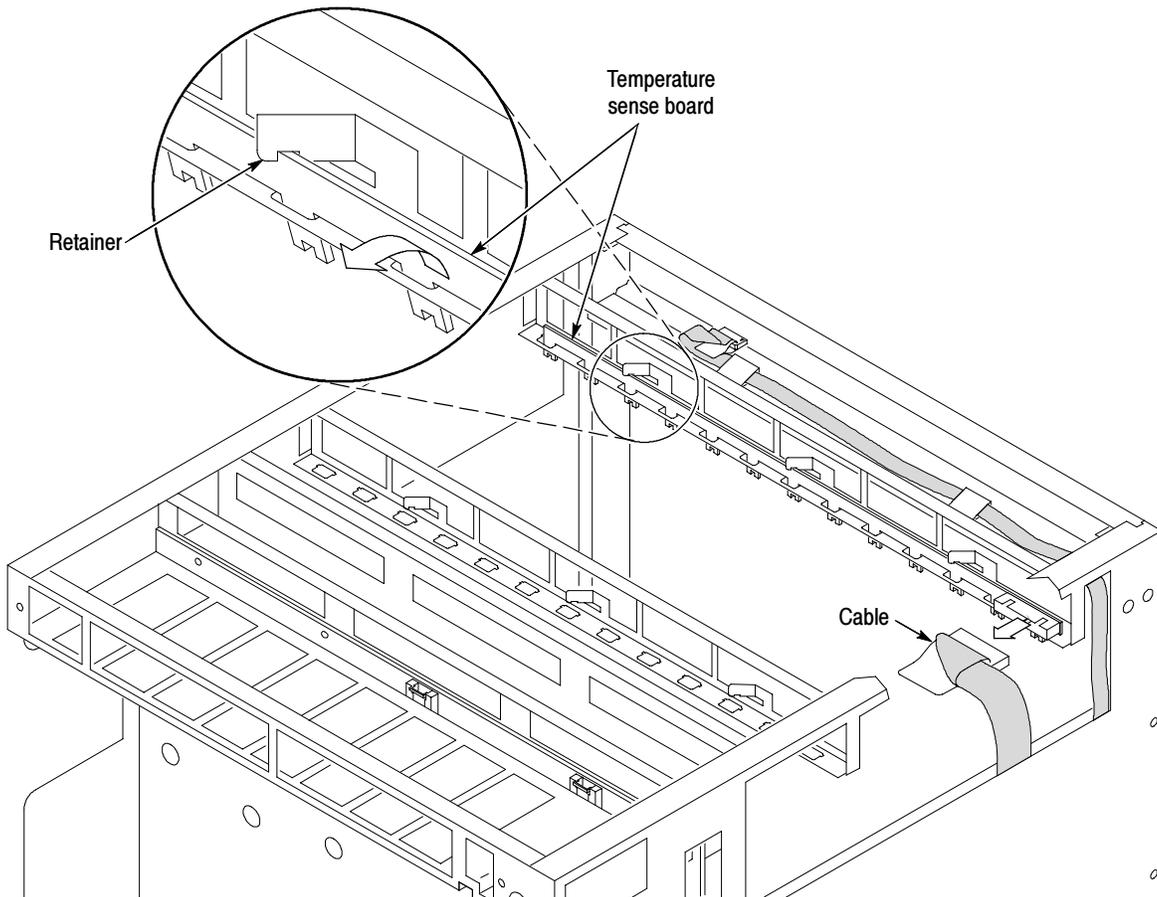

Figure 16: Removing the temperature sense board
3. Refer to Figure 16 and gently pry back on each retainer holding the temperature sense board in place.
1. Refer to Figure 16 and install the temperature sense board in the mainframe as shown.